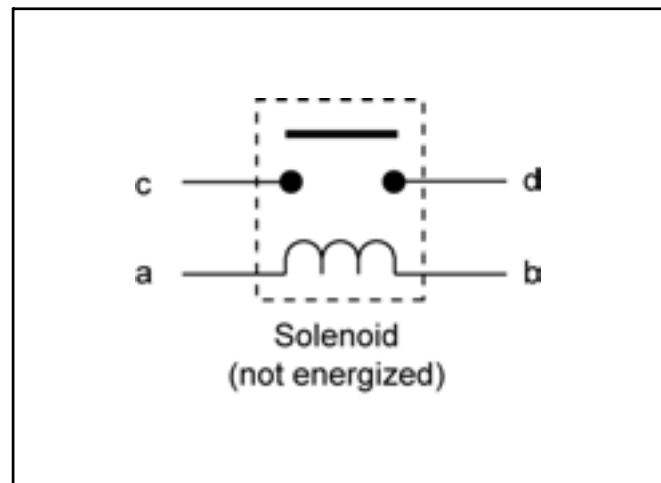

Figure 81
- Apply +12 VDC to terminal "a" and ground terminal "b". Terminals "c" and "d" should now be closed (continuity) (Figure 81).